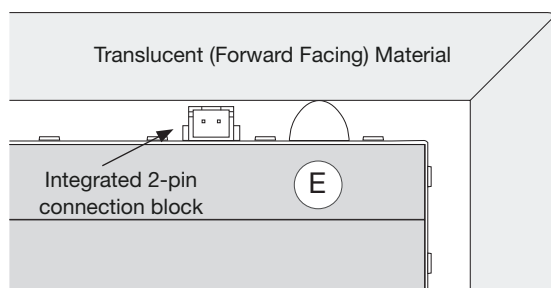
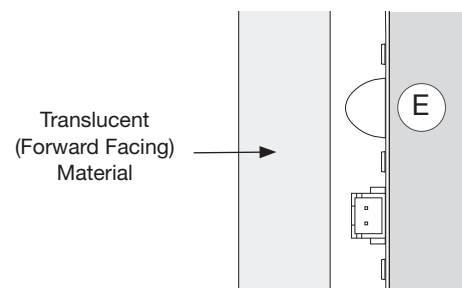

Figure 4
Figure 5
Domed spacing bumpers (E): The domed spacing bumpers (E) included with each LED Sheet have been engineered to bear the weight of translucent materials in horizontal applications and act as a safeguard in vertical applications so that the forward facing material does not harm the 2-pin connection blocks nor the LEDs. Applelec recommends using eight bumpers per LED Sheet (approximately six per square foot), spacing them evenly to distribute the weight of the forward facing material (see Figure 4) and to add a level of protection in vertical applications when the forward facing material will be positioned near the LED Sheet (see Figure 5). When an application must bear more than 100 pounds per square foot (488 kg per square meter) of weight and/or bears live load, contact Applelec for best practices.